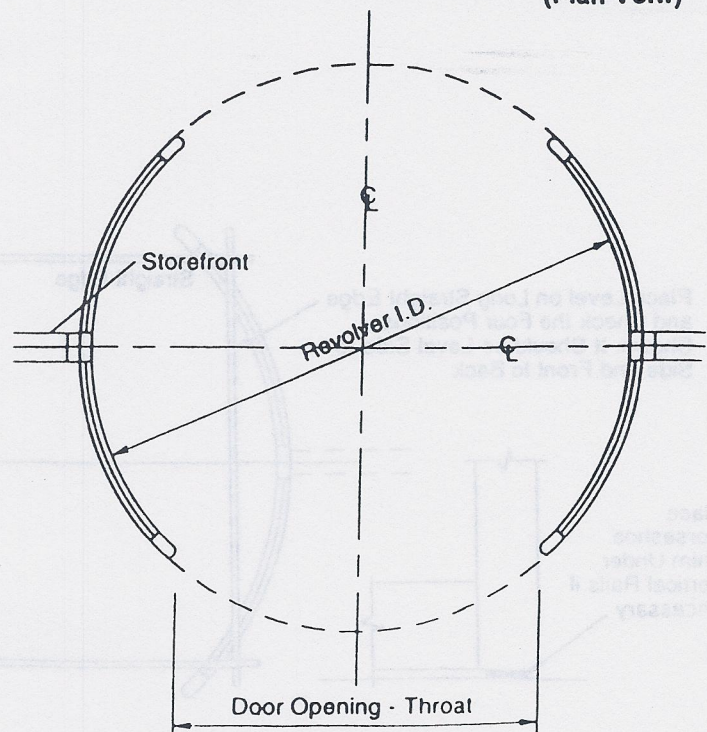

Figure 13 - Drum Anchorage
- B. Position door and line up bottom rails on the I.D. line drawn in figure 1. Verify that the throat openings are equal after centering the door (Figure 12 on this page). To secure bottom rails to the floor, drill 3/8" dia. hole for Hilti anchor bolts (Figure 13 on next page).